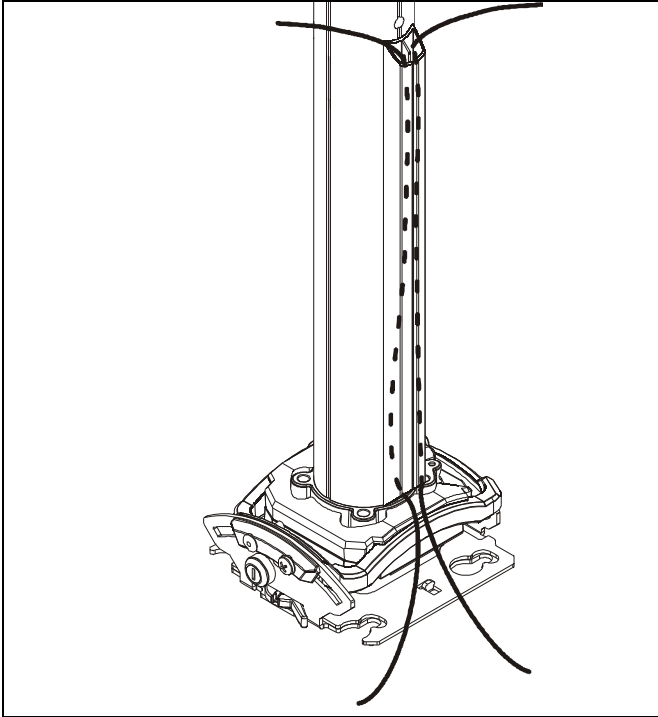

Figure 10
- 1. Route cables as desired through cover. (See Figure 10)